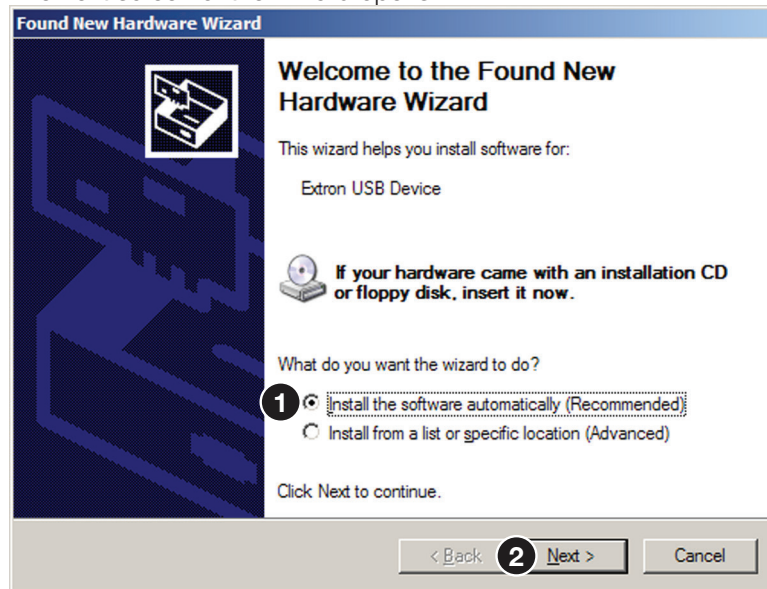

Figure 6. Installing the Software Automatically
4. Select **Install the software automatically (Recommended)** (see figure 6, **1**) and click **Next** (**2**).